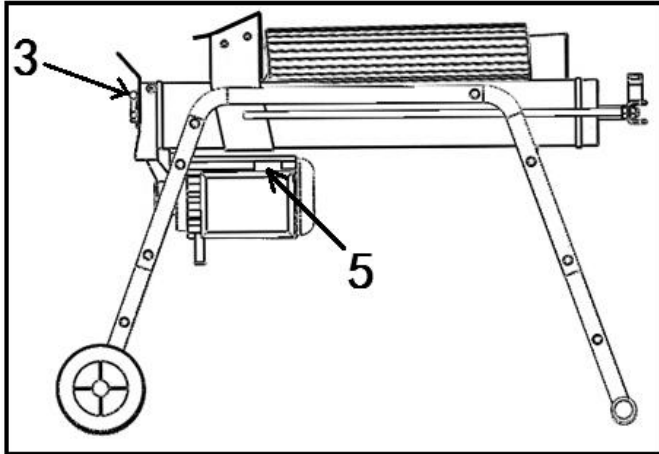

Fig .9
This log splitter is equipped with control system that requires to be operated by both hands of the user – left hand controls the hydraulic control lever (3) while right hand controls the push button switch (5) as shown in Fig. 9. The log splitter will freeze upon absence of either hand. Only after both hands release the controls, the log pusher starts to return backward to the starting position.